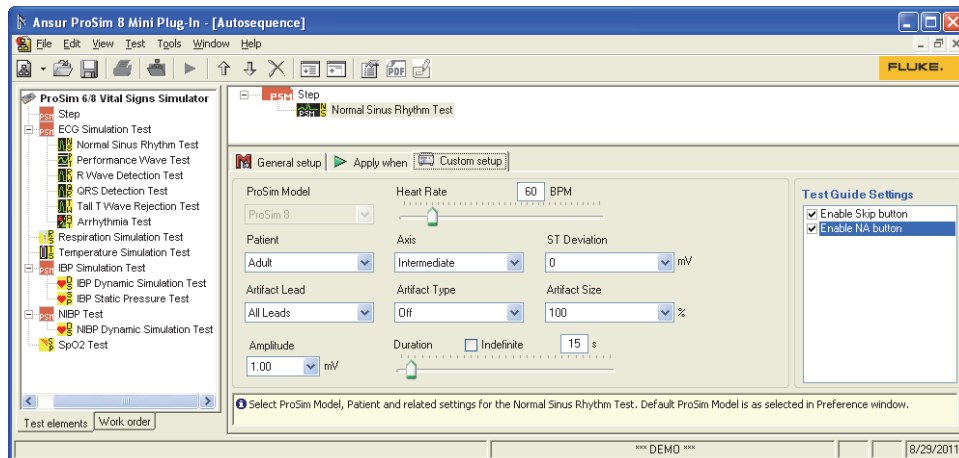

Figure 5-14. Custom Setup for a Test Element
3. Click **Custom Setup** tab to show the window in Figure 5-14.
3. Click the **Custom Setup** tab to show the window in Figure 5-14.